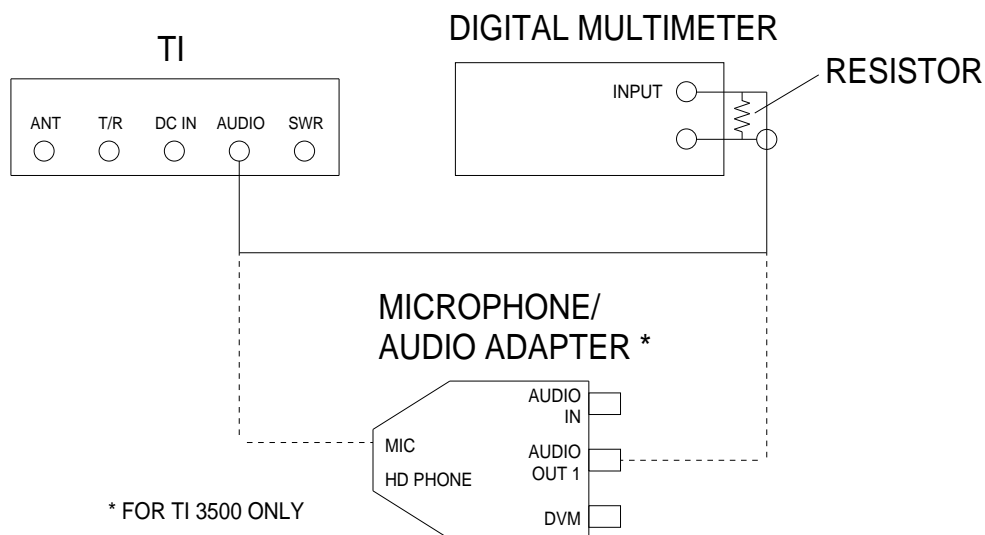

Figure 6.
- 4.4.1.1 Connect equipment as shown in Figure 6.